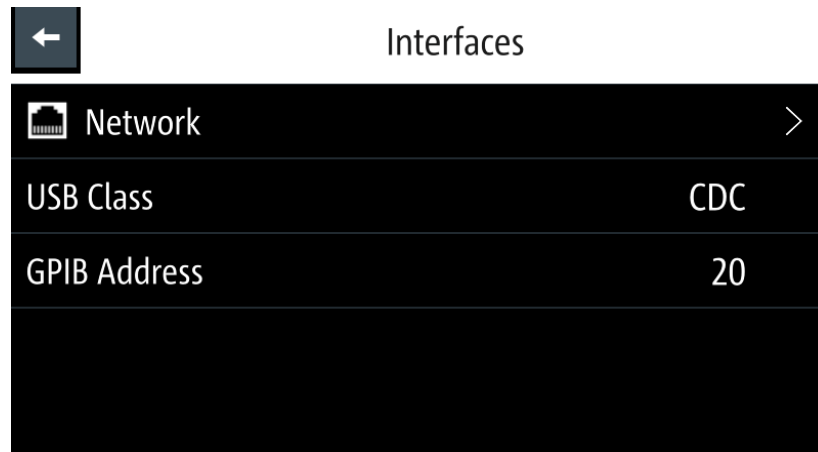

Figure 6-36: Interfaces dialog
1. Select "Network" from the Figure 6-36.
1. Select "GPIB Address" from the Figure 6-36.